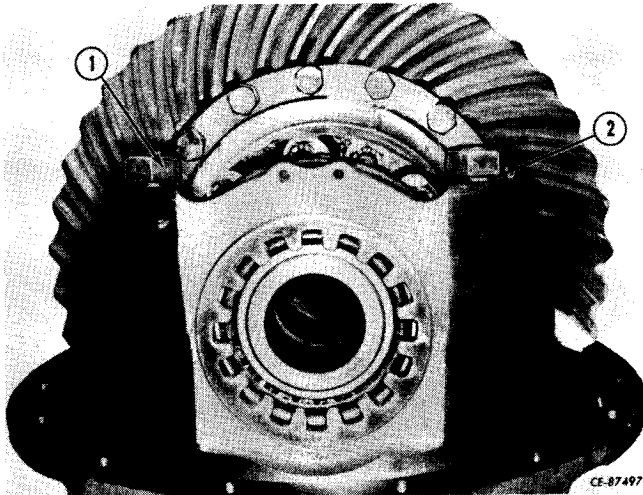

Figure 6-61
Install flat washers (2, Fig. 6-61) and cap screws (1). Tighten cap screws to recommended torque (refer to "SPECIAL TORQUES" under "SERVICE INFORMATION").